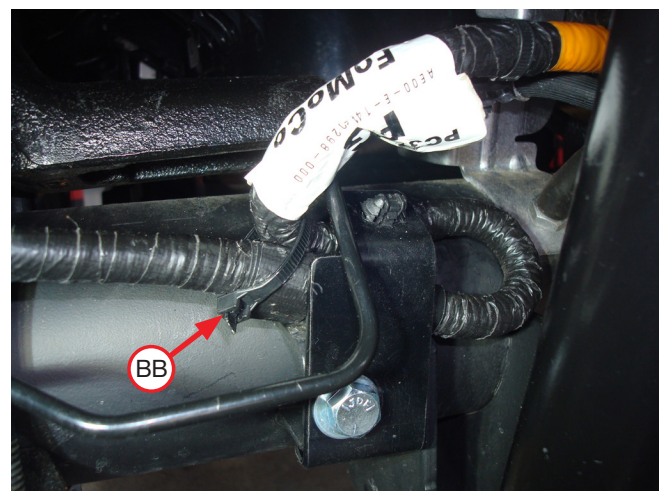

Fig. 12
8. Finish the re-location of the left side ABS wiring by installing a zip tie (BB) around the harness, as shown (Fig. 12).